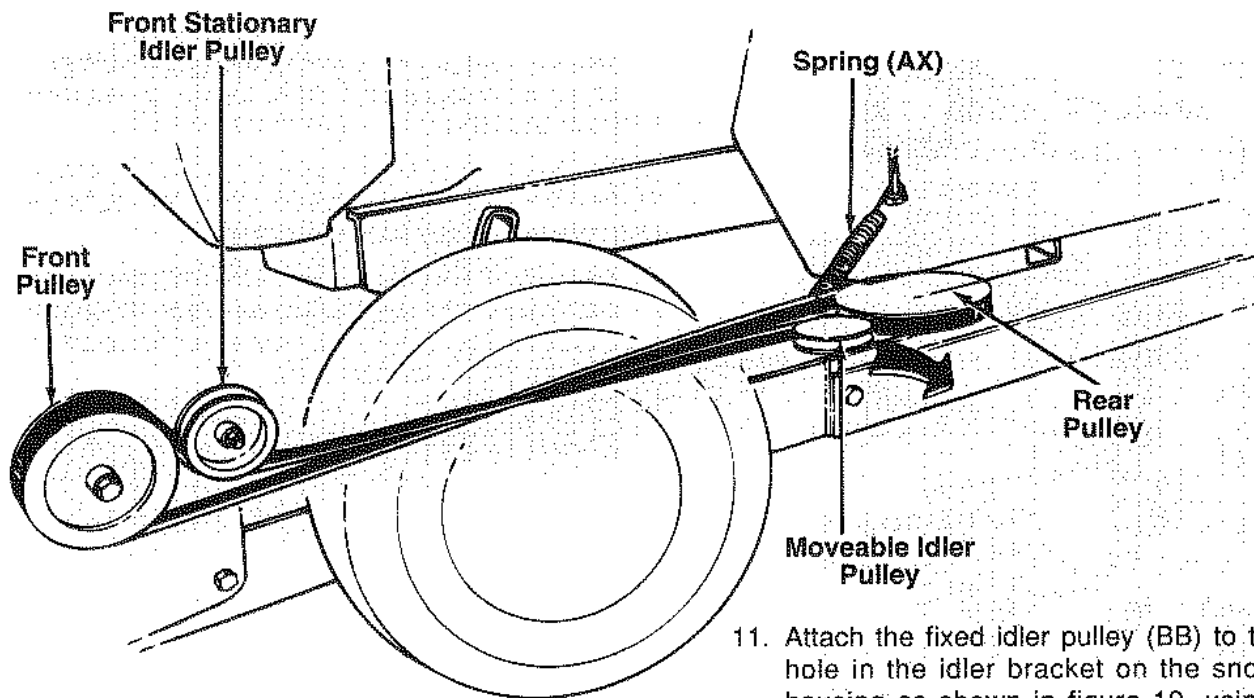

FIGURE 18.
13. Pull moveable idler pulley to the left hand side of the channel assembly. Twist drive belt to the left (determined from the operating position), and place belt on rear drive pulley. See figure 18.
14. Use a pair of pliers to bend the end of spring (AX) open slightly. Attach spring (AX) to the hole in the idler arm and the bolt beneath the channel assembly on the right hand side of tractor. See figure 18 and reference numbers 27 and 67 on page 18.
22. Test the auger rotation of snow thrower. The auger should be turning forward and down to pull the snow in. If it does not, the belt is twisted the wrong way. Unhook the belt and twist in opposite direction. See figure 18.